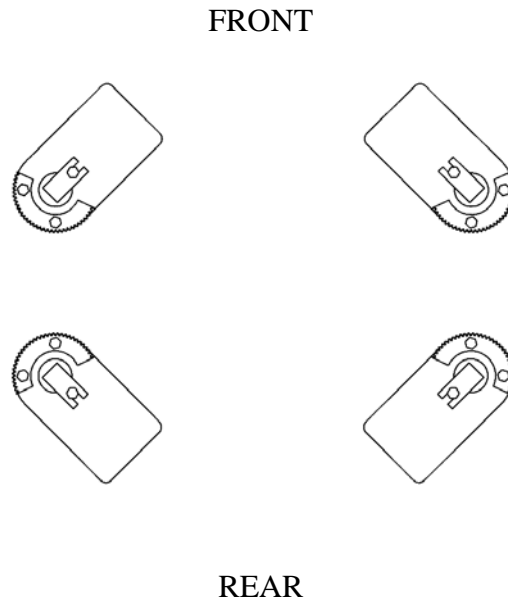

Figure 7 – Arm Installation
3. Remove the four (4) 5/16"-18UNC x 3/4"LG. hex head bolts that are holding the arm pins to the arm. Install the arms on the carriages.
5. Using two (2) 5/16"-18UNC x 1 1/4" LG. hex head bolts and two (2) 5/16" flat washers, attach each arm restraint gear as shown in **Figure 7**.